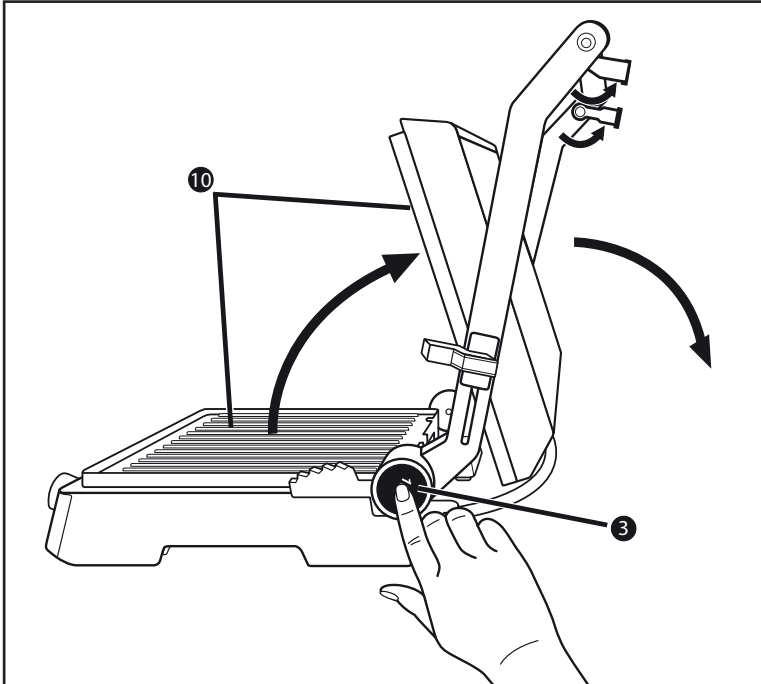

Fig. 1
- 1) Fold out both support feet **1** (Fig. 1).
- 2) Press the unlocking button **3** (Fig. 1) and open the appliance lid until both hotplates **10** can be used as a table grill.